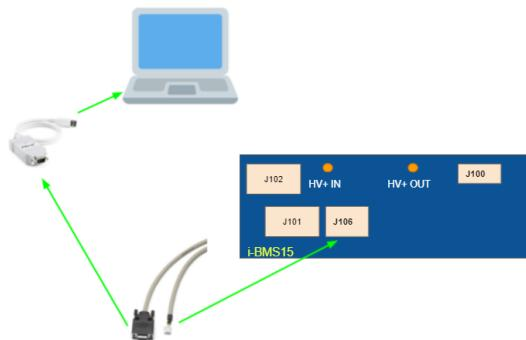

Figure 27 : Hardware Connection between PC and i-BMS15
- a) In order to connect the i-BMS15 to your PC, plug in the PEAK CAN adapter (Refer Figure 27). Once this is done, open BMS Creator which has been already installed on your PC. By default the first page of the BMS Creator configuration software will be the ‘Connection’ tab.
The following are the steps in which the PC communicates with the BMS (Refer Figure 27):